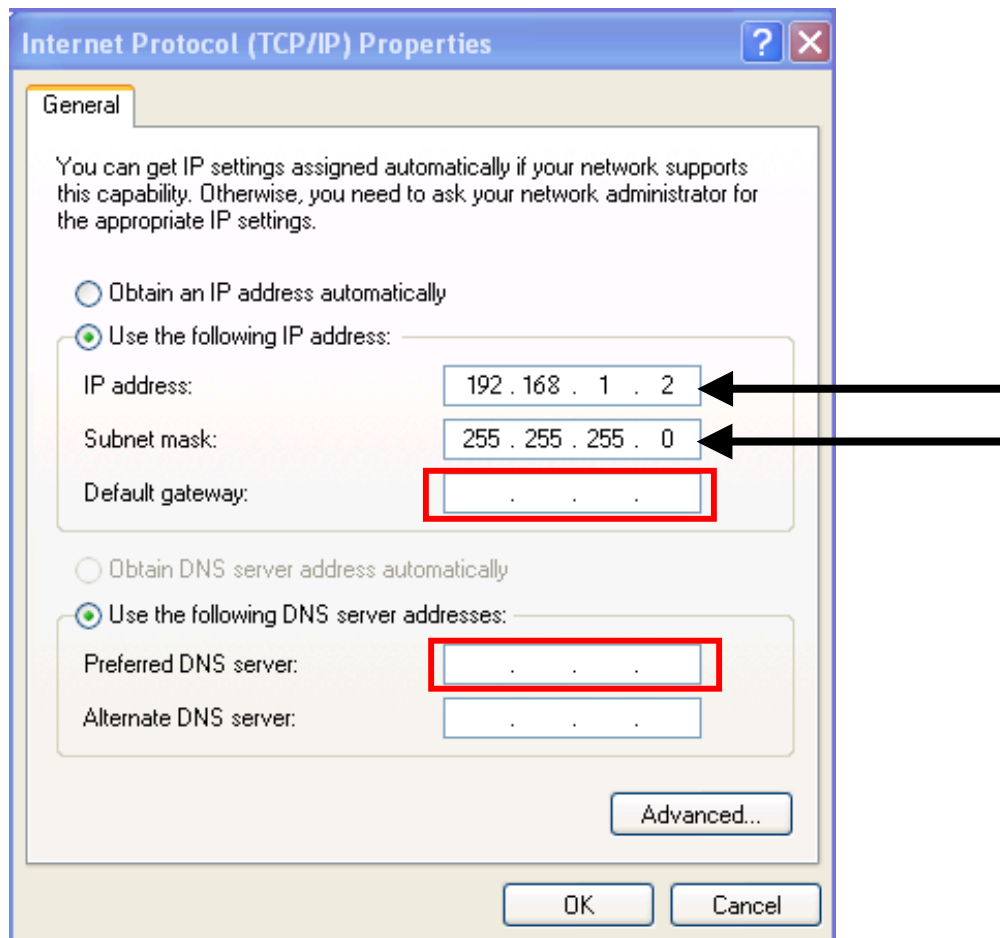

Figure 1
2. The “IP Address” from the screen shown (Figure 1) is the number you will use for Setting “E”, GATEWAY, "G" DOMAIN/WORK, and "J", HOST NAME. . Add one to the last digit (e.g. 192.168.1.3) and use this number for Setting “C”, TCP/IP. The number shown for “Subnet Mask” will be used for Setting “D”, Subnet Mask. If there are no numbers shown, click on the “Use the following IP address” button and then enter the numbers shown below. Leave the “F” setting blank when connecting to your Laptop.